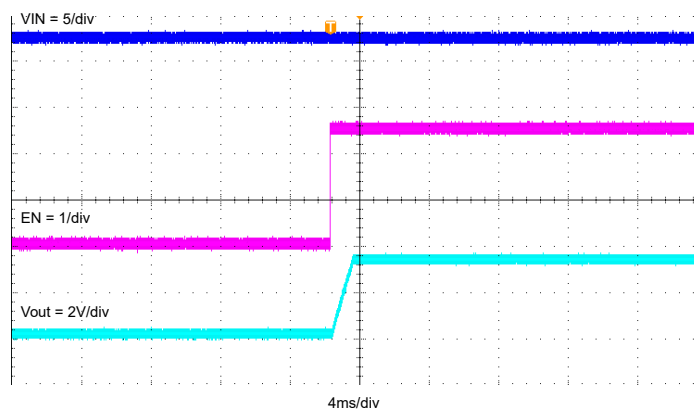

Figure 3-6. TPSM861253EVM Start-Up Relative to EN, $I_{OUT} = 1\text{ A}$
Figure 3-6 shows the TPSM861253EVM start-up waveform relative to enable (EN).